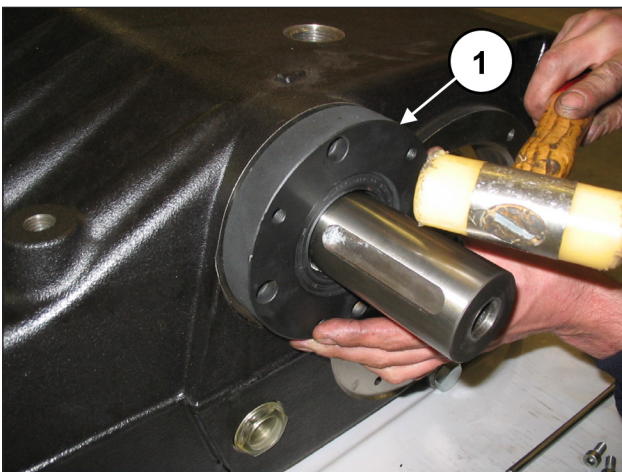
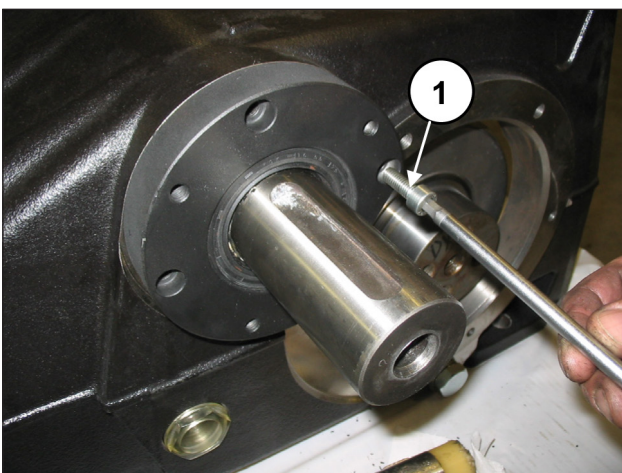

Fig. 68
Fig. 69
Mount one of the PTO bearing covers (left or right) on the pump casing (pos. ①, Fig. 68) and fasten it with 4 M8x30 screws (pos. ①, Fig. 69).
Mount the missing PTO bearing cover on the pump casing (pos. ①, Fig. 68) and fasten it with 4 M8x30 screws (pos. ①, Fig. 69).